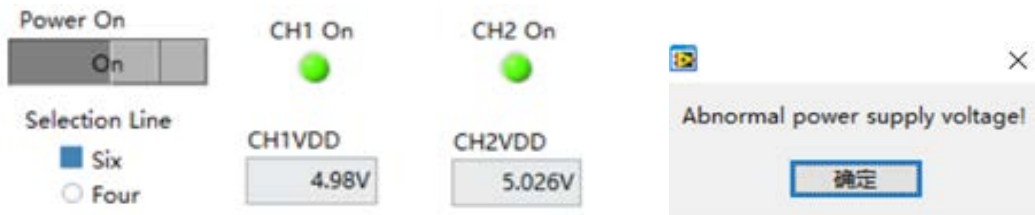

Figure 5.5.6 Powered on successfully
- Click the button below "Power on/off chip" to power on the chip. When it is powered on successfully, the power on indicator light will remain green (Figure 5.5.6); When it is powered on abnormally, an error pop-up will appear, displaying powered on abnormally (Figure 5.5.7). At this time, it is necessary to check the chip and hardware connections before attempting the power on operation again.